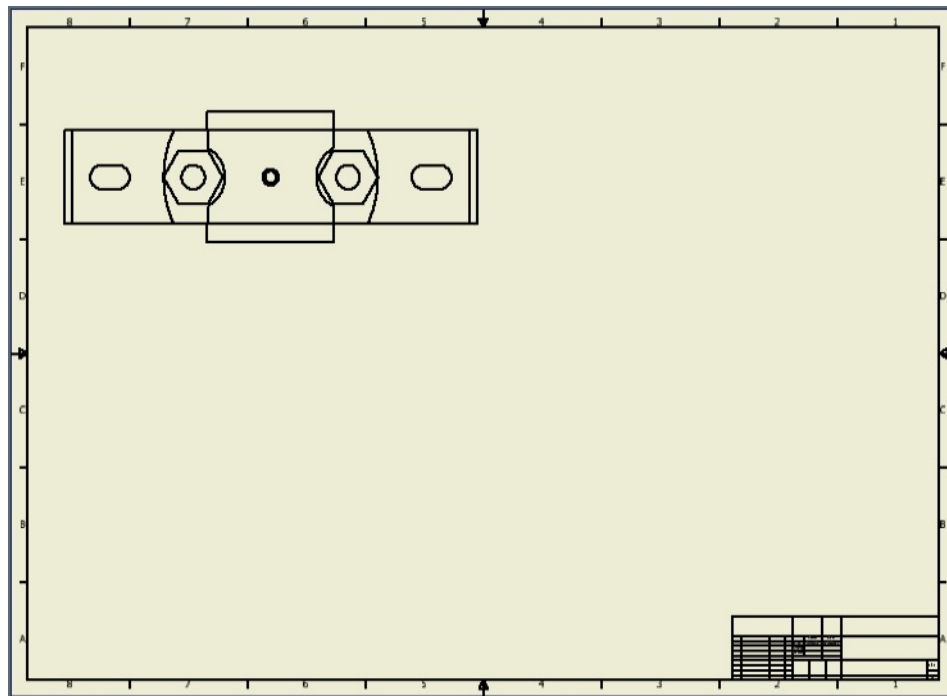

Figure 11-51 Top view of the assembly
5. Change orientation of view as top view by using ViewCube in the graphics window, as shown in Figure 11-51.
8. Select and drag the drawing view close to the top left corner of the sheet, refer to Figure 11-51.